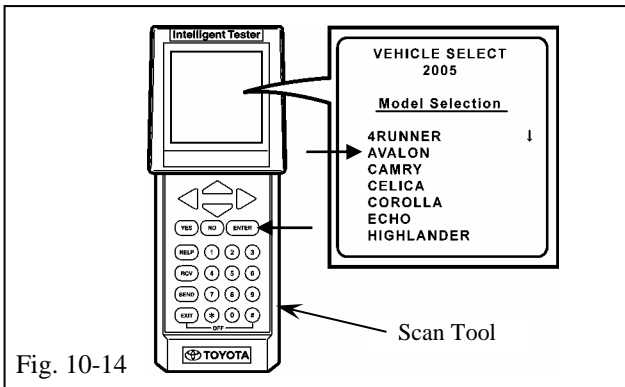

Fig. 10-14
- (o) Select “AVALON” with the scroll key, then press the “ENTER” button. (Fig. 10-14)